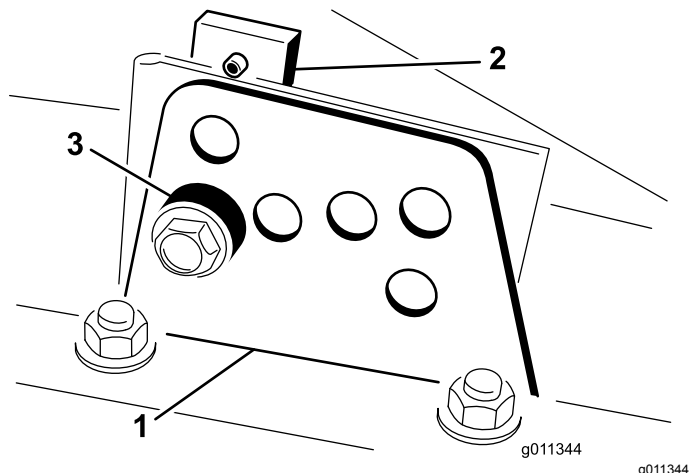

Figure 19
2. Loosen the bolt securing each height-of-cut bracket to the height-of-cut plate (front and each side) as shown in Figure 19.
4. While supporting the chamber, remove the spacer (Figure 19).